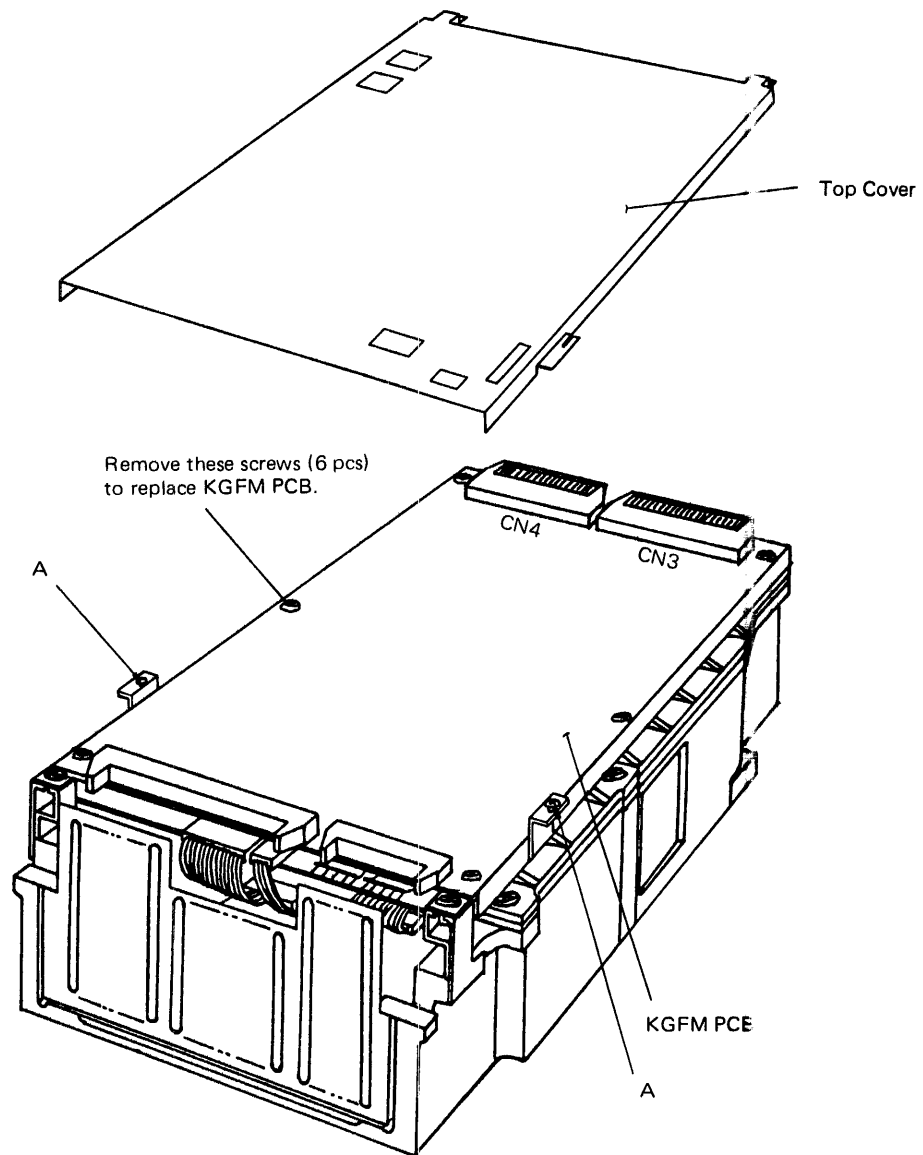

Figure 6-5-2 KGFM PCB Assembly Replacement
Refer to Figure 6-5-2.
- (1) Removal
- (A) Loosen screws "A" and remove the top cover.
- (B) Disconnect wiring (CN3 and CN4) from the KGFM PCB assembly.
- (C) Remove the six screws indicates in Figure 6-5-2.
- (D) Remove the KGFM PCB assembly by lifting it.
- (2) Installation
- (A) Fasten the KGFM PCB Assembly to the side frame, six screws.
- (B) Fasten connectors (CN3 and CN4).
- (C) Install the top cover and tighten screws "A".